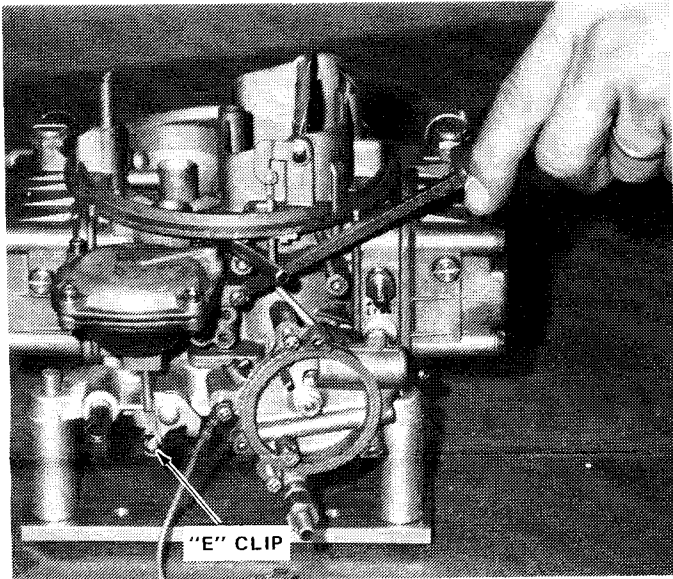

Fig. 8: With choke housing swung out of way, remove 3 screws holding secondary throttle diaphragm assembly. Remove "E" clip at throttle lever.
2. Remove three screws attaching secondary vacuum diaphragm to main body. Fig. 8.